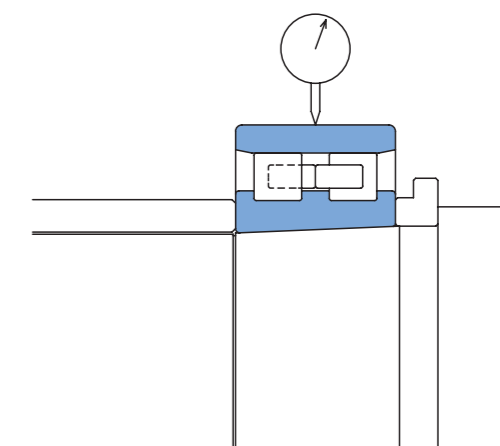

Figure 9.11 Final Assembly Radial Clearance Check
- Again, measure the radial clearance and confirm that the desired radial clearance is provided (Figure 9.11).